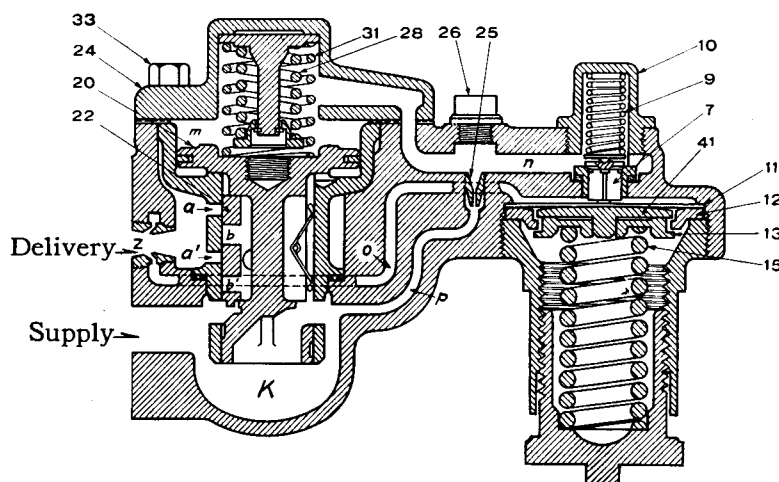

FIG. 10—TYPE M-3 FEED VALVE—DIAGRAMMATIC VIEW SHOWING
- Fig. 10. Type M-3 Feed Valve—Diagrammatic View Showing CLOSED Position.
to the air line as shown in Figs. 10 and 11. A spring-backed diaphragm, exposed to line pressure, is so arranged that reduction in line pressure permits this diaphragm to move in the direction of its spring pressure, opening a regulating valve which bleeds air from one side of its main piston, allowing it to move due to reservoir pressure on its opposite side and open a port to the line.